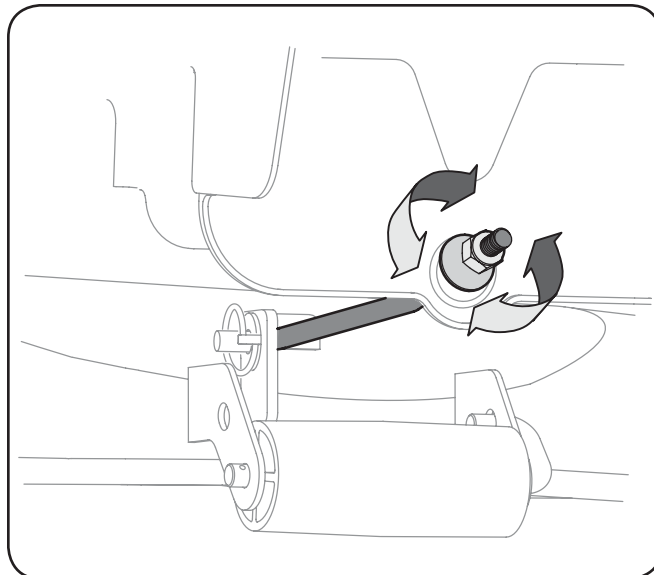

Figure 6-4
1. Locate the flange lock nut on the end of the deck hanger rod. See Fig. 6-4.